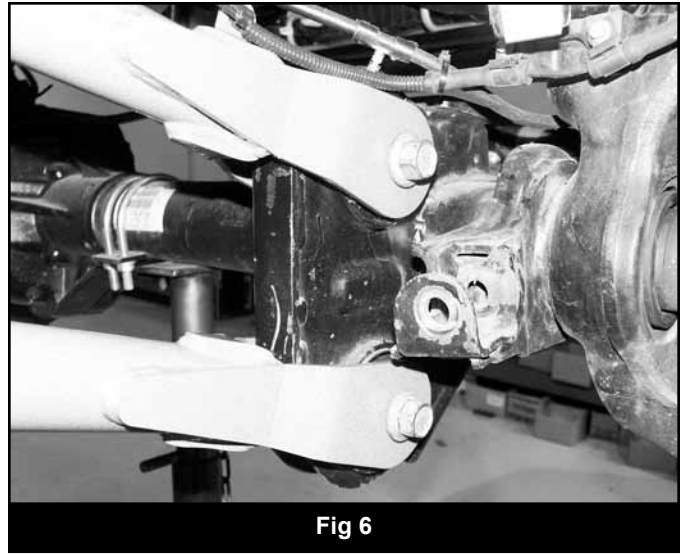

Fig 6
15. Attach the axle end of the control arm with the original hardware. Leave hardware loose. (Fig. 6)